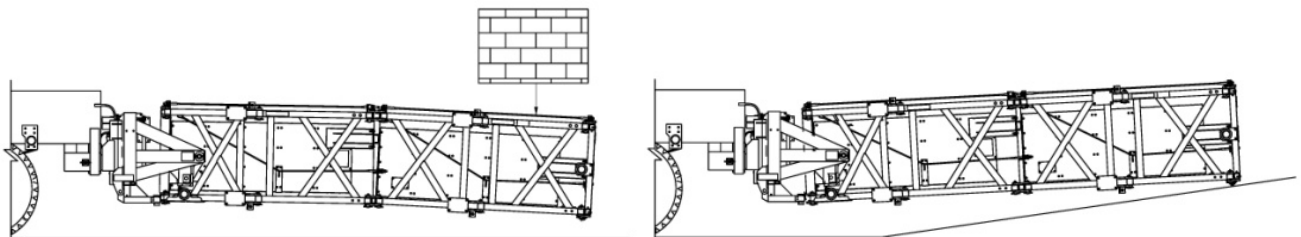

Figure 6
4. SS90TMHD TMA has been shown to absorb an impact within the criteria of NCHRP-350 testing, and to support its own weight. Do not drag the TMA or place anything on its top: damage may result (See Figure 6). Do not sit, stand, or lean on any part of the TMA.